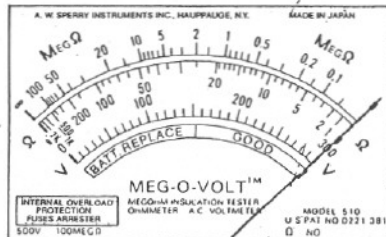

FIG. 7
**NOTE:** On all three  $\Omega$  Ranges, RX1 $\Omega$ , RX100 $\Omega$  & MEG $\Omega$ , the Zero "0" Position is at the extreme right of the scale and reads right to left deflection. See Fig. 7.